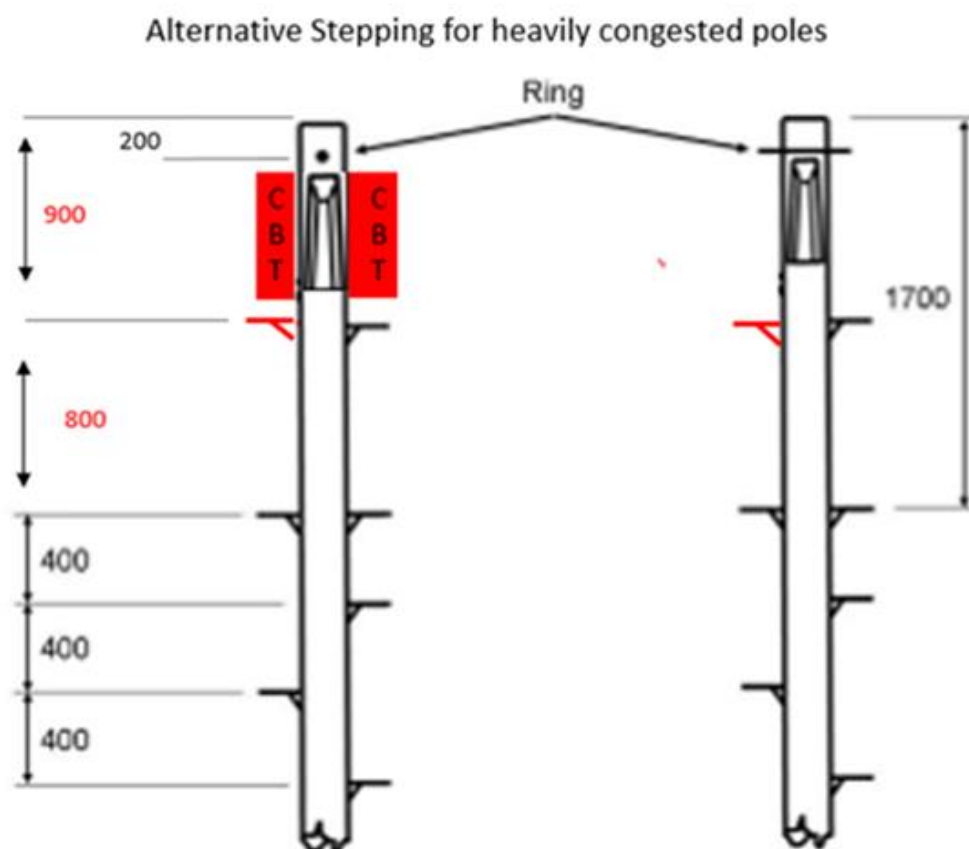

Figure 2 – Revised stepping after step shift
- A new Step must be provided at a position, level with (and on the direct opposing face) to the lower Bass Step (see figure 2)